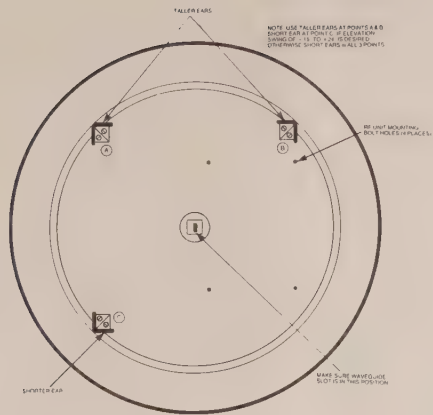

Figure 3-15. Corner Ear Installation For Horizontal Polarization
**ELEVATION TILT RANGE.** The antenna mounting bracket is attached to the reflector using three reflector standoffs (or ears). The mounting kit contains a total of five ears (two extra ears); three short ears and two tall ears. The desired elevation tilt range determines which ears are used (Table 3-5 and Figures 3-15 through 3-24).
Step 1. Attach the corner ears as shown in Figure 3-15. Make sure the waveguide slot has the long dimension situated vertically as shown.